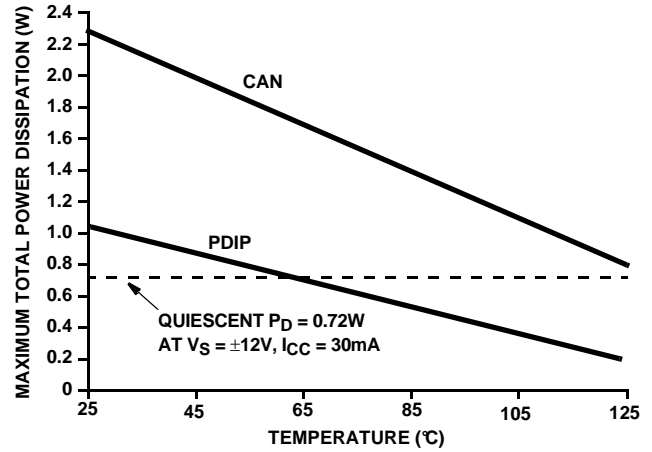

FIGURE 5. MAXIMUM POWER DISSIPATION vs TEMPERATURE
- Maximum power dissipation, including load conditions, must be designed to maintain the maximum junction temperature below 175°C for the metal can package, and below 150°C for the plastic packages (See Figure 5).
- The maximum operating temperature may have to be derated depending on the output load condition. See Figure 5 for more information.
Figure 5 is based on: